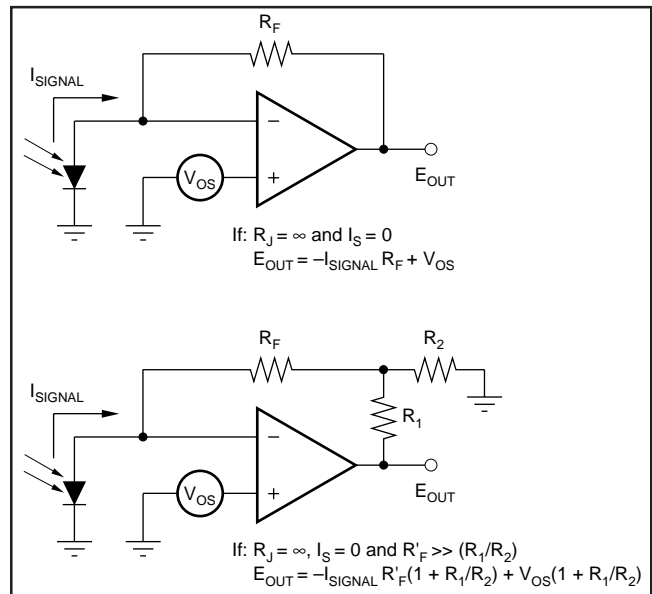

FIGURE 5. Feedback Resistors for Transimpedance Amplifiers.
- A very high resistance feedback resistor is MUCH better than a low resistance in a T network. See Figure 5. Although transimpedance gain ( $e_{OUT}/i_{SIGNAL}$ ) is equivalent, the T network will sacrifice performance. The low feedback resistance will generate higher current noise ( $i_N$ ) and the voltage divider formed by  $R_1/R_2$  multiply input offset voltage, drift, and amplifier voltage noise by the ratio of  $1 + R_1/R_2$ . In most electrometer amplifiers, these input specifications are not very good to start with. Multiplying an already high offset and drift (sometimes as high as  $3\text{mV}$  and  $50\mu\text{V}/^\circ\text{C}$ ) by use of a T network becomes impractical. By using a far better amplifier, such as the OPA128, moderate T network ratios can be accommodated and the resulting multiplied errors will be far smaller. Although a single very-high resistance will give better performance, the T network can overcome such problems as gain adjustment and difficulty in finding a large value resistor.